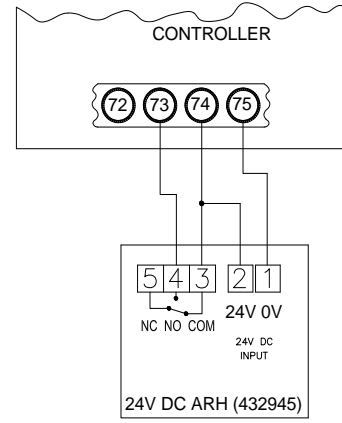

FIG 11: SYSTEM BOOST CONNECTION FOR AMBIENT RESPONSE HUMIDISTAT MIN TO MAX SETTING
- Fig.11 - Ambient Response Humidistat;